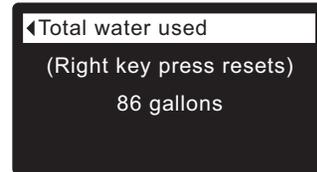

FIG. 60
6. The **Total water used** screen (See Figure 60) shows the volume of water used since it was last reset (it works like the trip odometer in a car). To reset the value to 0, press the RIGHT (▶) button while this screen is displayed.